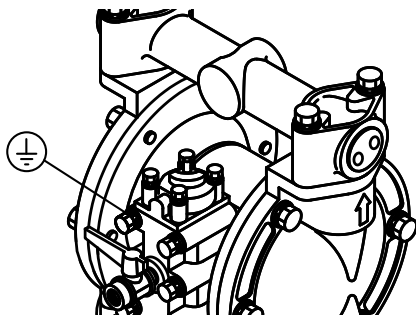

Figure 12
1. When installing the pump, be sure to connect the ground wire at the specified position. For the specified position for connecting the ground wire, See Figure 12.